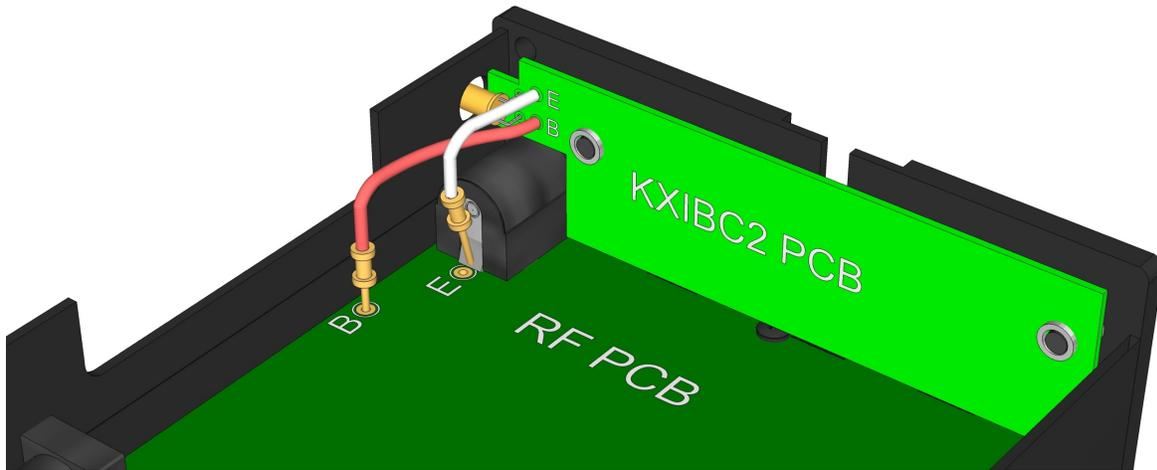

Figure 1
- [] Plug in the KXIBC2 module as shown in **Figure 1**. Only three of the original four connectors are used with the KXIBC2 (the one not used will be obvious). Be very careful to not bend any of the pins. As you position the module, make sure its yellow LED protrudes through the hole in the rear edge of the enclosure.
- **Method 1:** Solder the pin plugs directly to the “B” and “E” pads on the RF board as shown in **Figure 1**. This is the recommended method for field installation of the KXIBC2 module. Soldering the wires is acceptable, since it is very unlikely the module will ever have to be removed.